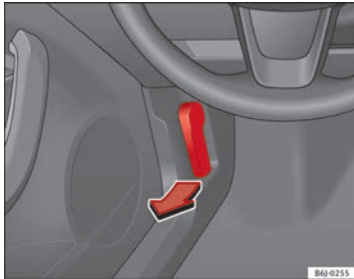

Fig. 122 Bonnet opening lever
- To release the bonnet, pull the lever under the dash panel ⇒ Fig. 122 in the direction indicated (arrow). The bonnet will be released by a spring action ⇒ ⚠.